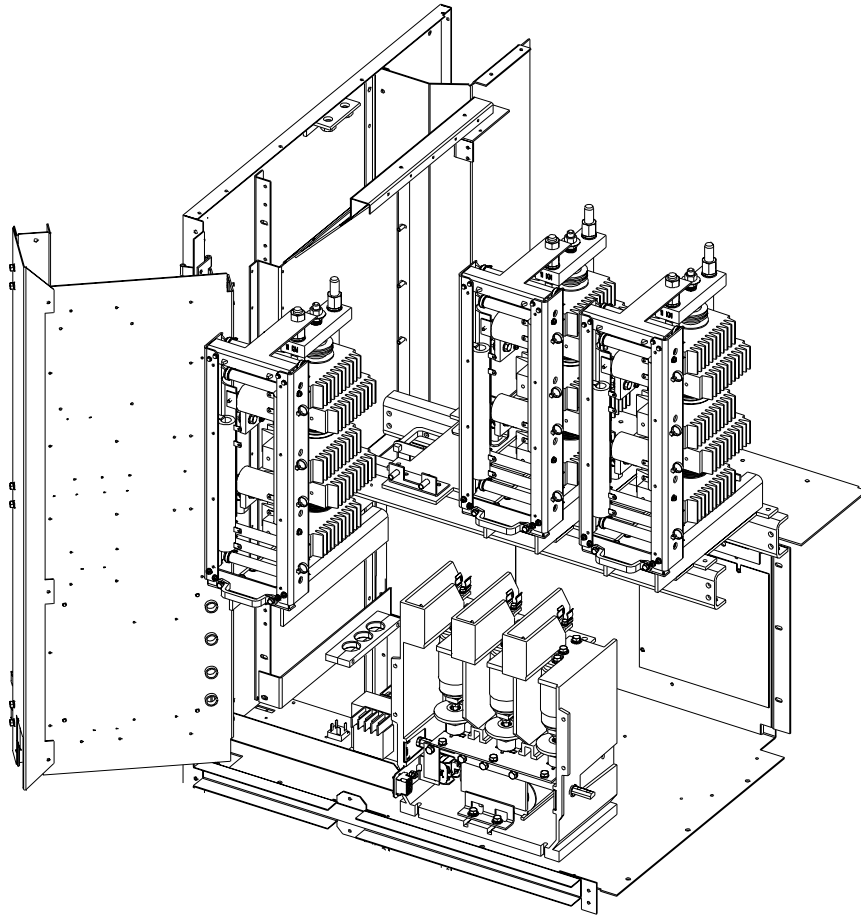

Figure 9.4 – Upper Low Voltage Panel and Power Cell Detail (1562E) • 2400 to 4160 V, 180/360 A
2. Service to phase A module may require removing the medium voltage door and swinging out the low voltage panel (for 36-inch wide, two-high cabinet only); see the low voltage panel, Fig. 9.4.